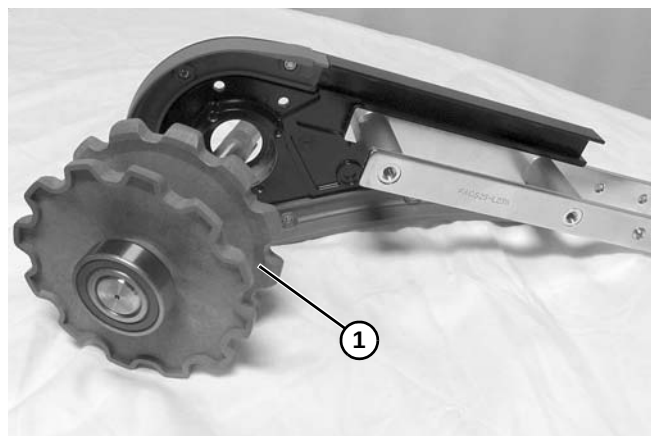

Figure 76
7. Remove spindle shaft assembly (**Figure 76, item 1**) from idler head plate assembly.